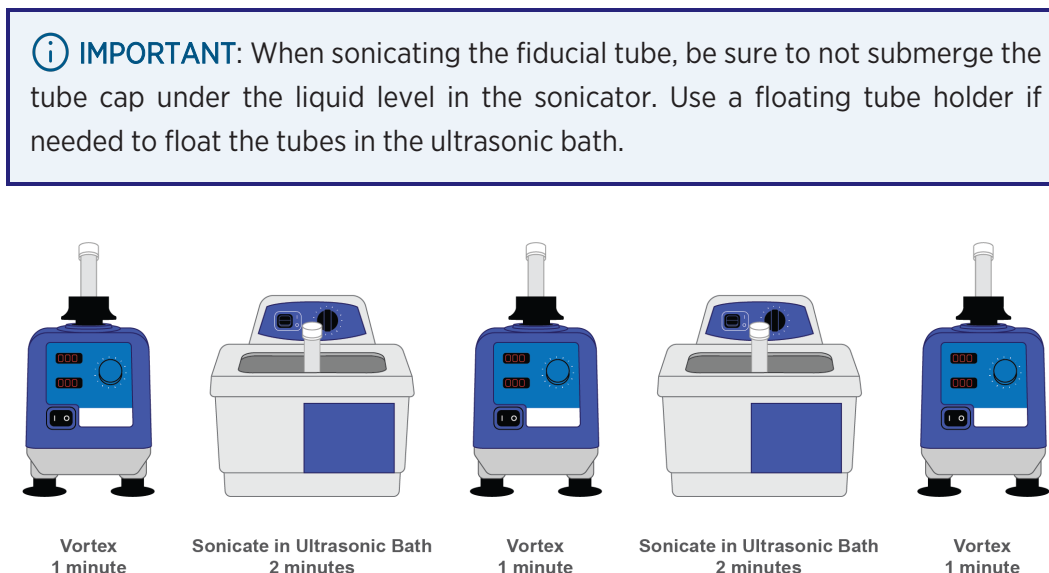

Figure 104: Prepare Fiducials
1. Prepare fiducials for use following the below steps (Figure 104):